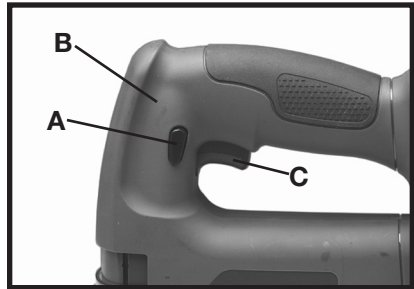

Fig. 9
2. Hold down button (A) Fig. 9 from either side of handle (B).
3. Squeeze power trigger (C) Fig. 9 to start the blade in motion.
4. Release power trigger (C) Fig. 9 to stop the blade.